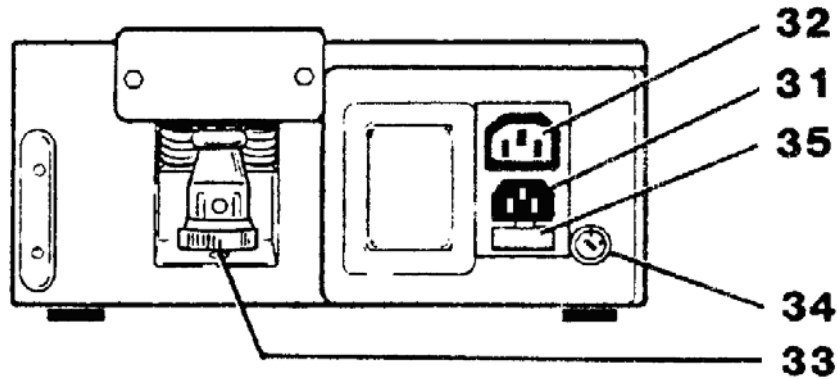

Figure 1-4. Defibrillator back panel.
(13) Test load display (30). A test load of 50 ohms is provided to test the defibrillation charge at any selected energy level. The delivered energy (± 15 percent) is displayed by the delivered energy meter.
(14) Defibrillator power cord (31). Refer to figure 1-4 for paragraphs (14) through (18). The defibrillator power cord provides ac power to the interconnected defibrillator and monitor modules when it is connected to a grounded ac power source.
(15) Power cord receptacle (32). The power cord receptacle is used to receive the monitor module power cord when the defibrillator power cord is used to provide line power and a battery charge for both modules.
(16) Paddle cord connector receptacle (33). The paddle cord connector receptacle receives the external, internal and/or anterior/posterior paddle cord connector. Line up the yellow guide markings to facilitate connection.